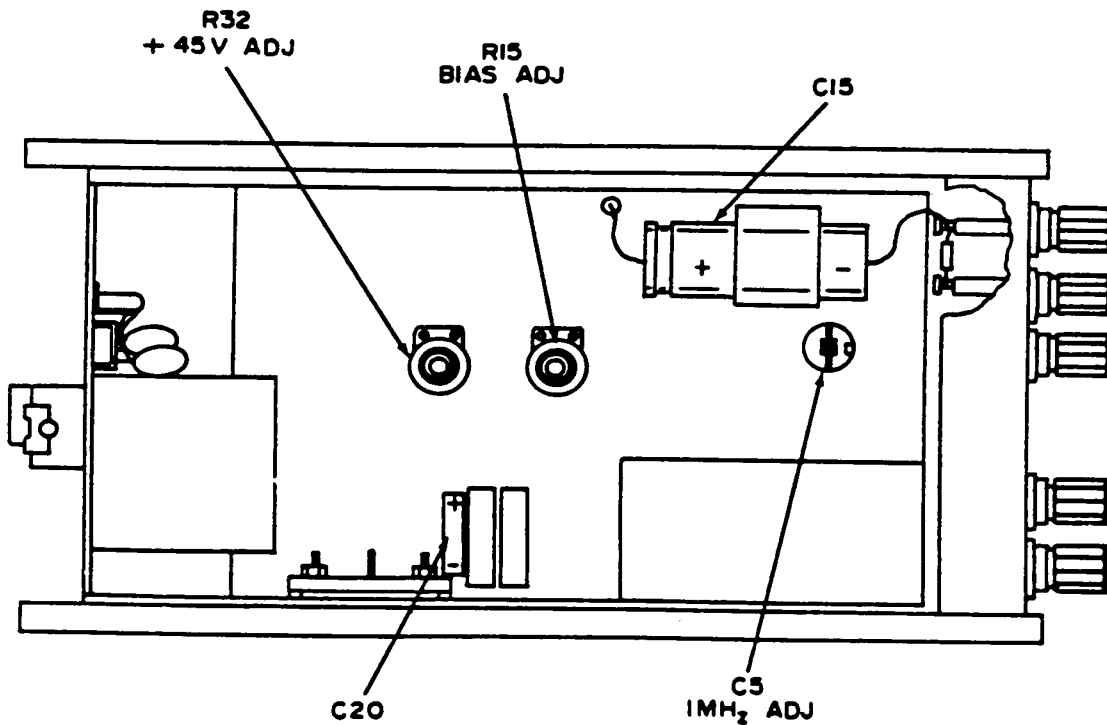

Figure 5. AM-4826/U (HP Model 465A) - top view.
(1) Set oscillator frequency for 1 MHz and output for 1 V (verify with voltmeter)
(2) Adjust C5 (fig. 5) until voltmeter indicates 8.5 V (R).
(1) Connect ac/dc voltmeter (A1) between positive side of C20 (fig. 5) and chassis ground, using leads and adapter (B9, B10, B3, and B4). If ac/dc voltmeter does not indicate between 44 and 46 V, perform **b**(1) below.
(2) Move positive lead to positive side of C15 (fig. 5). If ac/dc voltmeter does not indicate between 22.5 and 23.5 V dc, perform **b**(2) below.
(1) Adjust R32 (fig. 5) until ac/dc voltmeter indicates 45 V dc (R).
(2) Adjust R15 (fig. 5) until ac/dc voltmeter indicates 23 V dc (R).